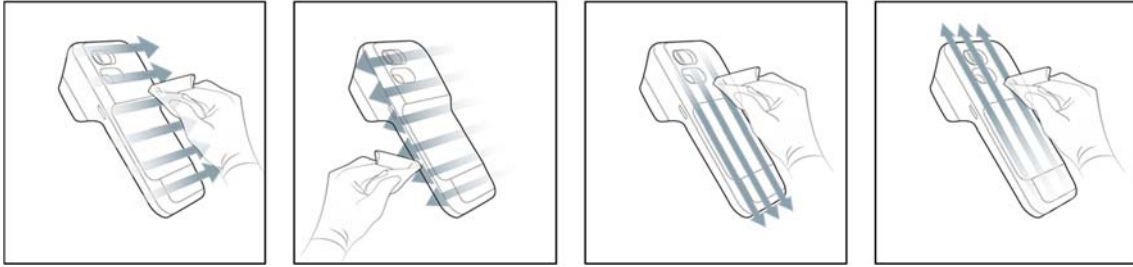

Figure 9. Wipe the meter back
6. Follow the Figure 9 to wipe the meter back.